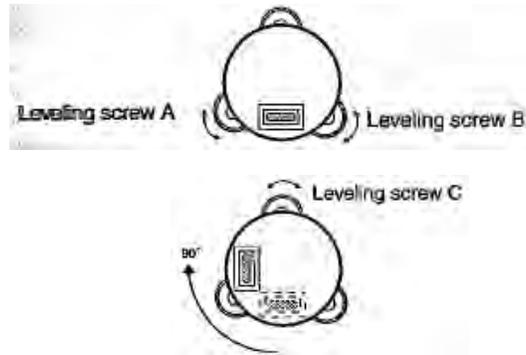

Figure 3: Diagram for fine leveling with the plate level.
- (b) Referring to Fig. 3, precisely level the instrument using the plate level.